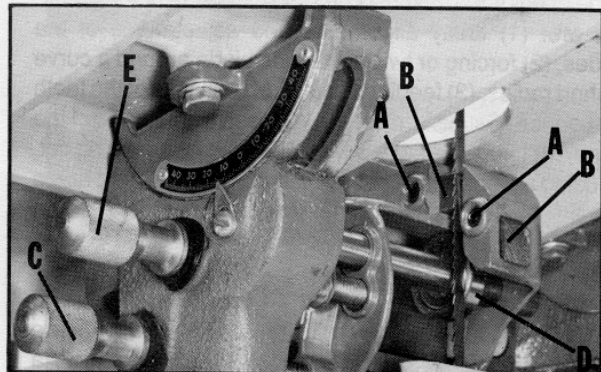

Fig. 29
1. Loosen the two screws (A) Fig. 29, and move the guides (B) as close as possible to the side of the blade, being careful not to pinch the blade. Then tighten screws (A).
2. The front edge of the guide blocks (B) should be adjusted so they are just behind the "gullets" of the saw teeth by turning the knurled knob (C) Fig. 29.
3. The lower blade support bearing (D) Fig. 29, should be adjusted so it is about $1/64$ " behind the back of the blade by turning the knurled knob (E).